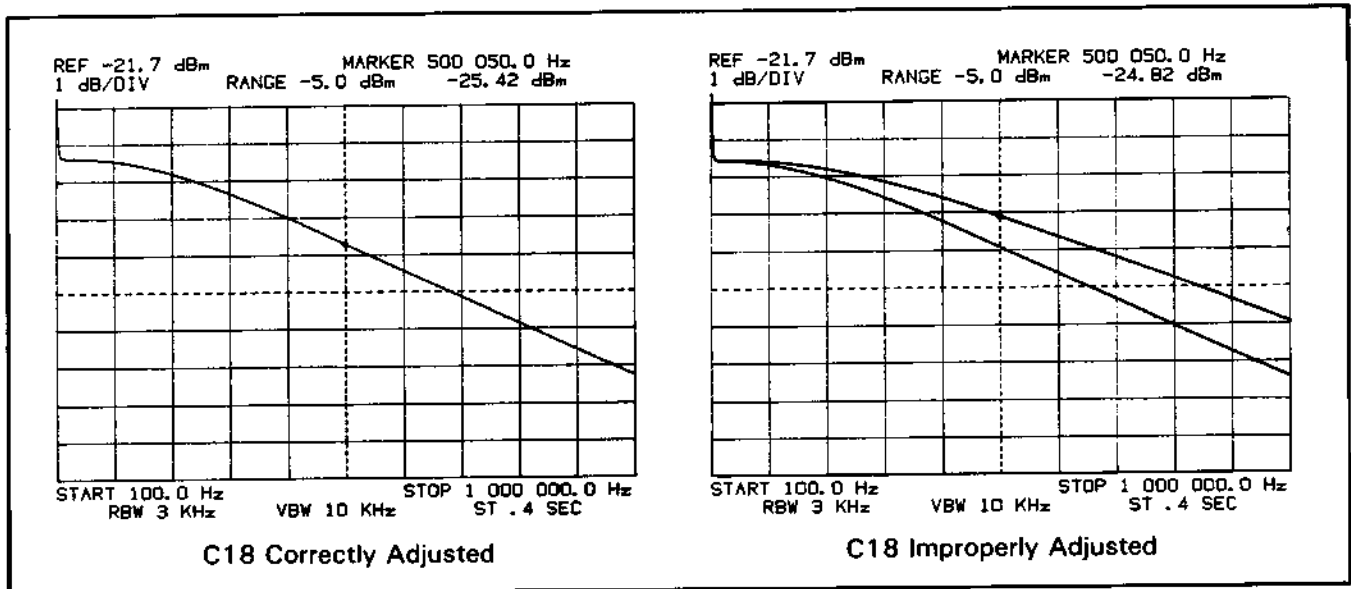

Figure 5-44. 1MΩ Input Capacitance Display
h. Adjust A1C18 so that the A trace overlaps the B trace as closely as possible (see Figure 5-44).